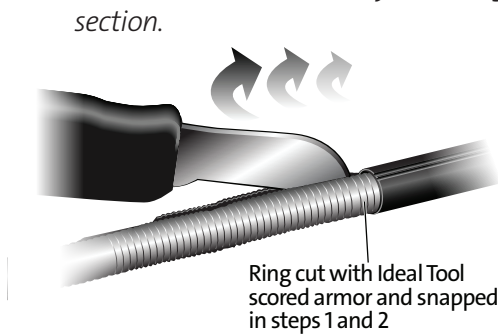

Figure 20
**Step 5:** To start armor separation at the edge of the jacket, use splicer's tool to separate armor for approximately 6 in (Figure 20). Pull apart with gloved fingers.